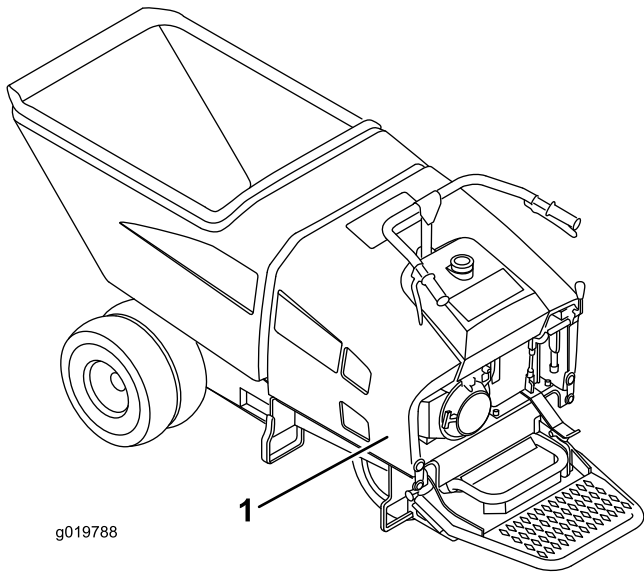

Figure 17
1. Before removing the cowl (Figure 17), stop the engine and allow the engine to cool.